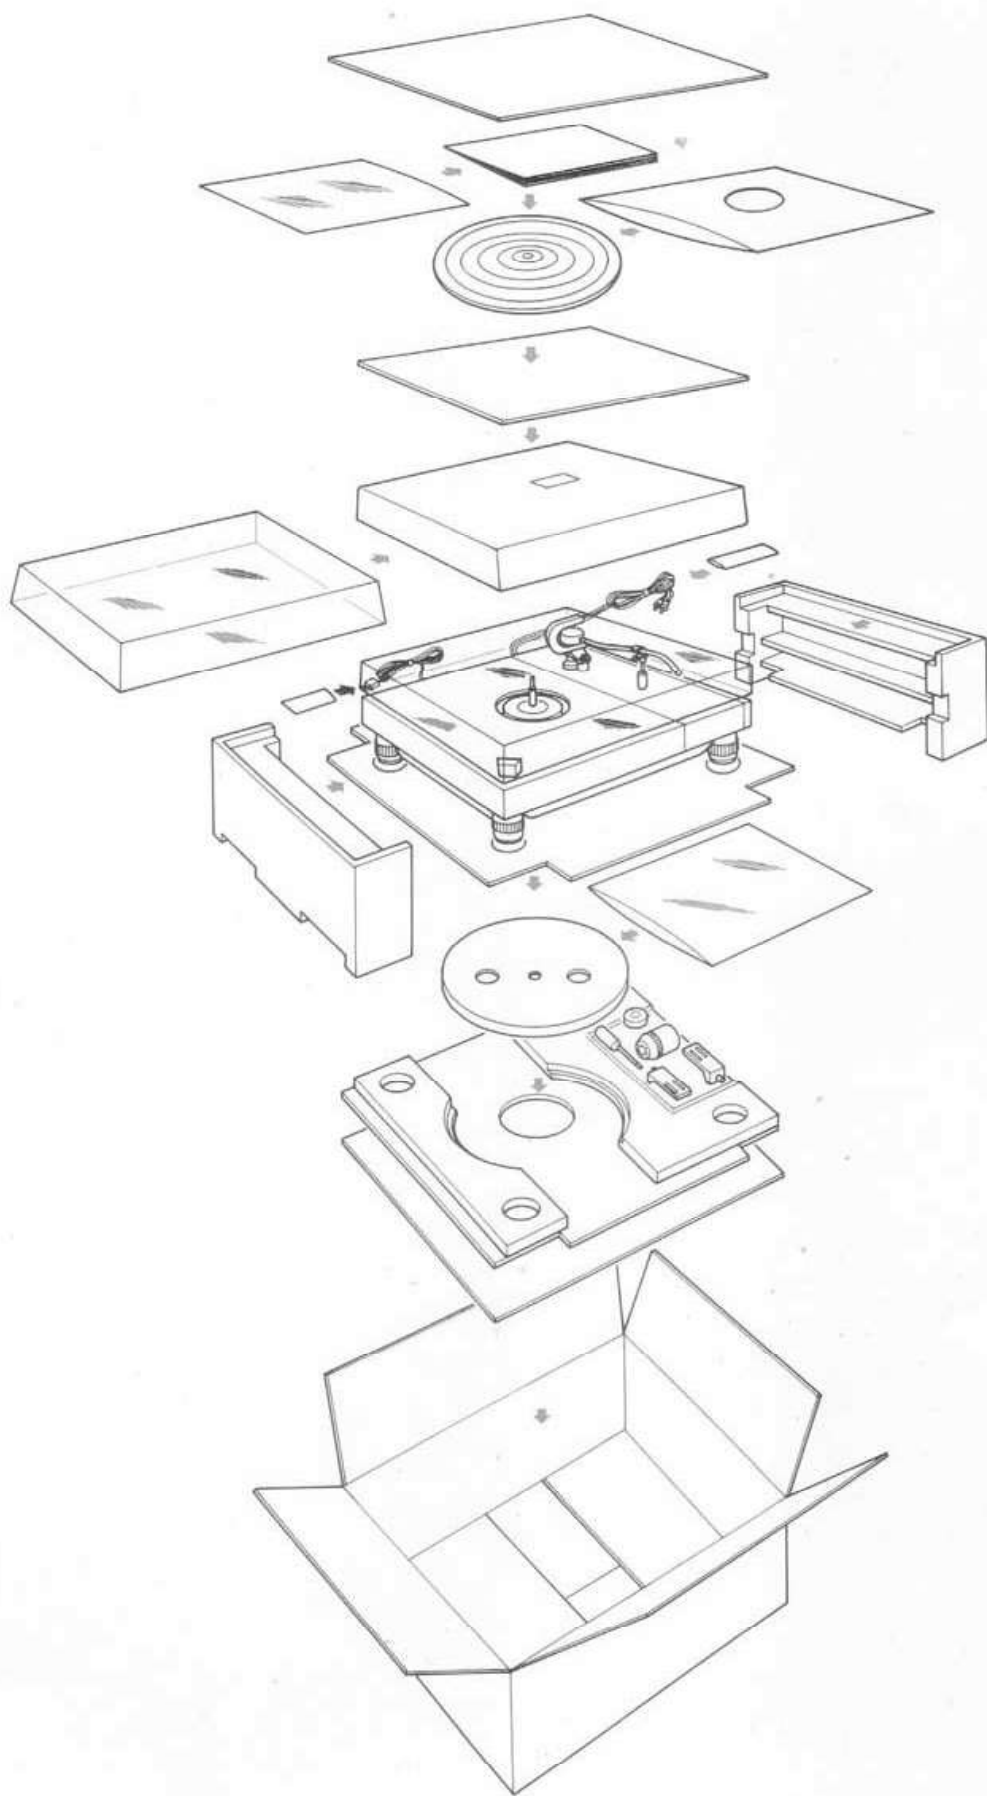

Figure 10. Packing Instructions
- b. Pack the unit carefully, using the original material as shown in Figure 10.